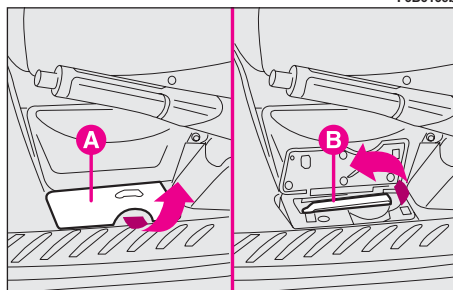

fig. 160
- lift cover **A**-fig. 160 with the lever next to the driver's seat;
- pull lever **B**-fig. 160 in the direction of the arrow;